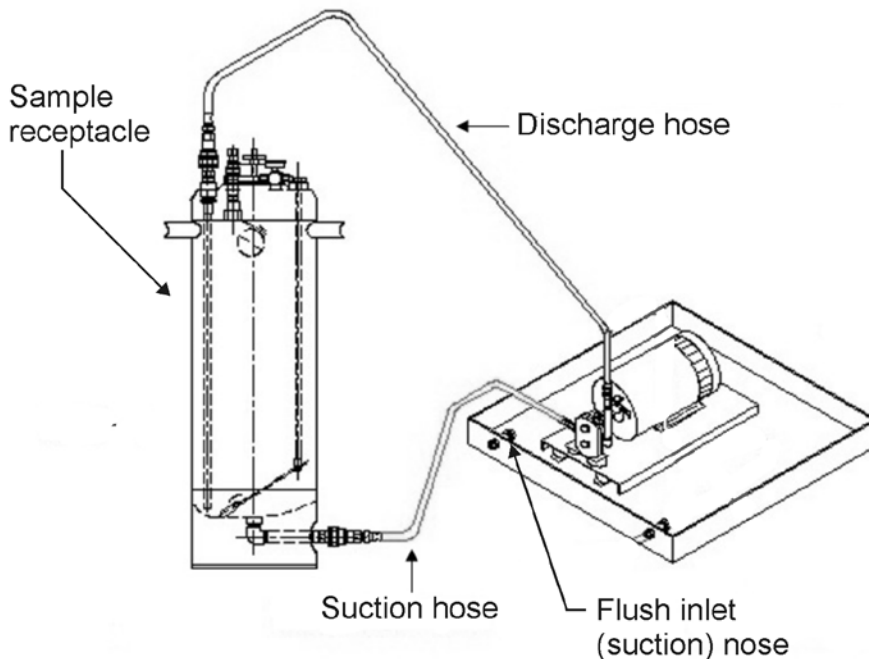

Figure 1—Hose connections for mixing a sample
4. Remove the discharge hose QD coupler from the drain outlet nose inside the drain table, and connect it to the discharge connection on the top of the receptacle (Figure 1).
5. Remove the suction hose QD coupler from the flush inlet nose inside the drain table, and connect it to the suction connection at the bottom of the receptacle (Figure 1).
- a. Remove the suction hose QD coupler from the flush inlet nose and connect it to the suction connection of the receptacle. (Proper hose connections are the same as those for mixing, shown in Figure 1.)